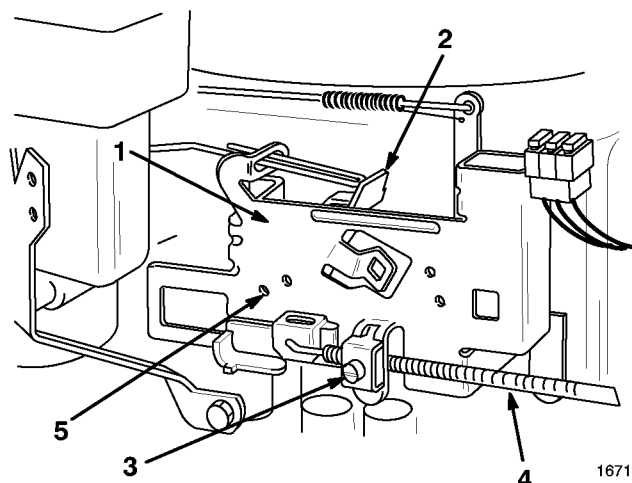

Figure 26
- B. With the throttle in the "FAST" position, index holes in the governor control lever and the governor plate must align (Fig. 26). If they do not align, refer to step 4 for adjustment procedure.
- B. Loosen the throttle cable clamp screw until you can slide the throttle cable casing (Fig. 26).
- C. Move the throttle cable casing until the index holes in the governor control lever and the governor plate align (Fig. 26). Now tighten the cable clamp screw.